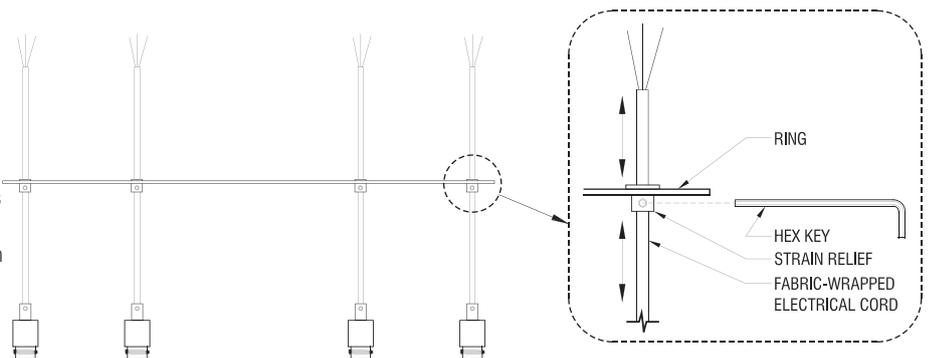
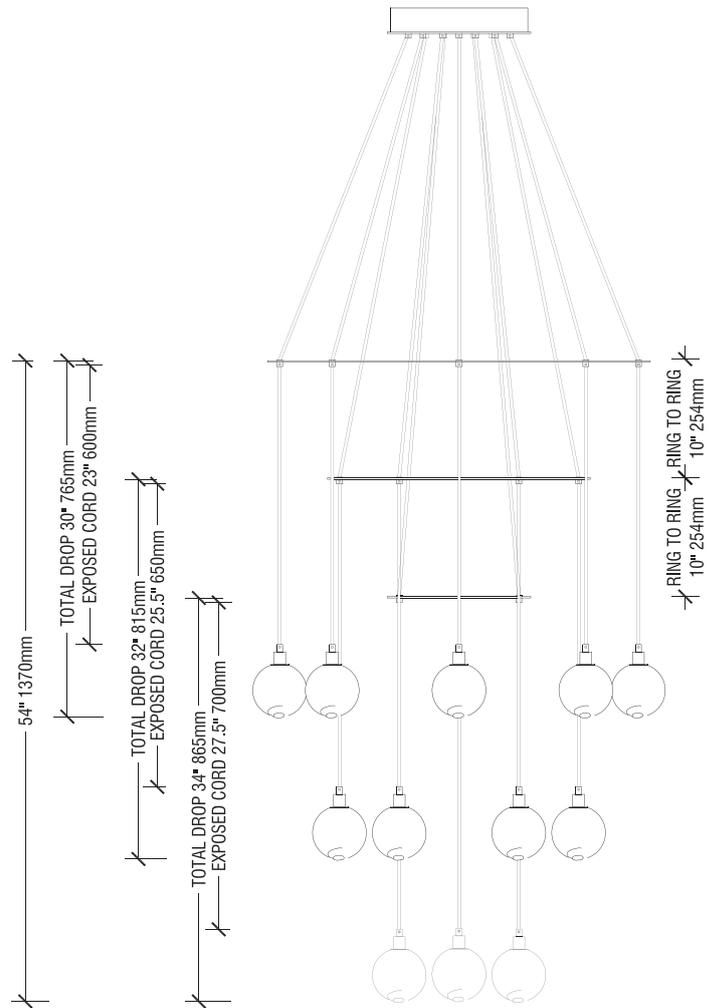

Figure 4. Pass cords through rings
Figure 5. Standard fixture composition dimensions
- 6 Pass the fabric-wrapped electrical cords of each individual pendant through the strain reliefs on the rings. The side of the rings with the strain reliefs will face downward (Figure 4). Determine the desired length for the pendants to hang below each ring and then tighten the set screw strain reliefs so that all pendants are the same length. To compose the chandelier per the SkLO standard composition, refer to the dimensions shown Figure 5 for the lengths of exposed cord between the brass sockets and the rings, as well as between the two rings. Please note that there are many possible compositions for this chandelier, and the recommended standard composition is only one possibility. When tightening the strain reliefs on the rings, take great care not to overtighten or damage the fabric covering or the electrical cords themselves. Tighten only enough to keep the ring from slipping along the cord and to hold the cords in place when suspended.